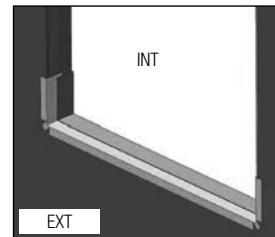

FIG. 8
- Flashing tape must cover the entire sill plate. If needed, apply an additional flashing piece over the first one (start from the exterior and work toward the interior). Maintain a minimum 1" overlap. (Fig. 8)